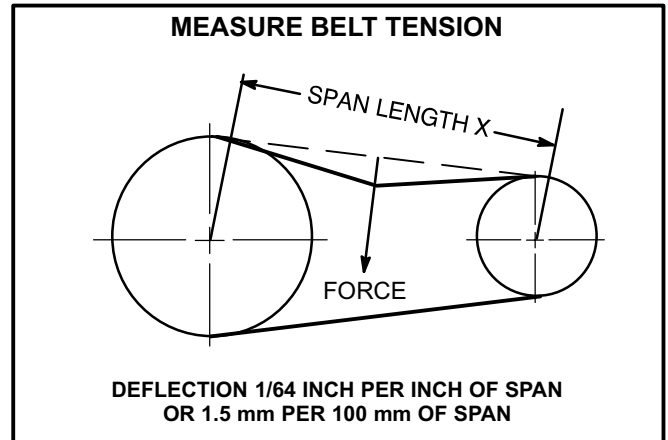

FIGURE 8
- 1 - Measure span length X. See figure 8.
- 2 - Apply perpendicular force to the center of span (X) with enough pressure to deflect belt 1/64 inch for every inch of span length or 1.5mm per 100mm of span length.